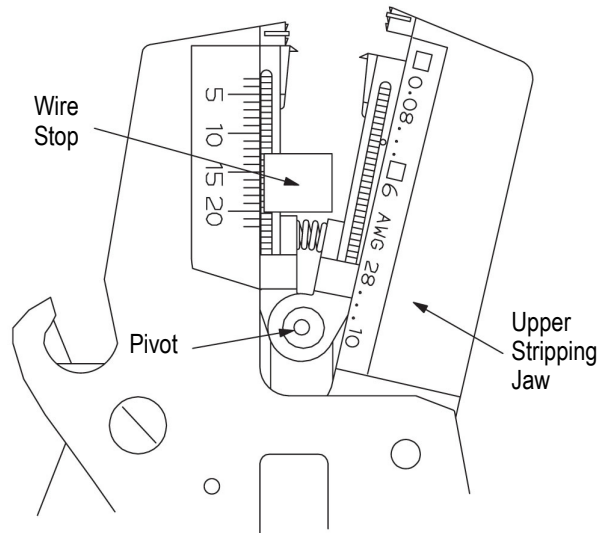

Figure 4
#### 5.1. Jaw Removal (Figure 4 and Figure 5)
1. Open the jaws and position the tool as shown in Figure 4.